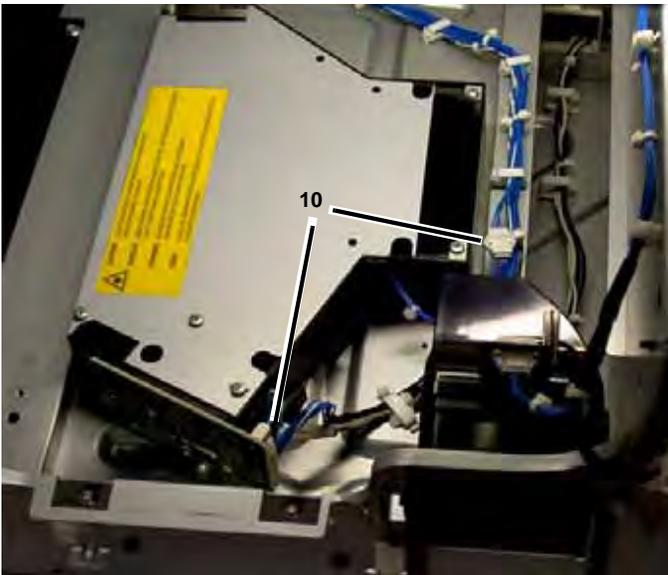

Figure 9 PJ's
10. Disconnect the ROS PJ's (4) and release the wire harness from the clamps (Figure 9).